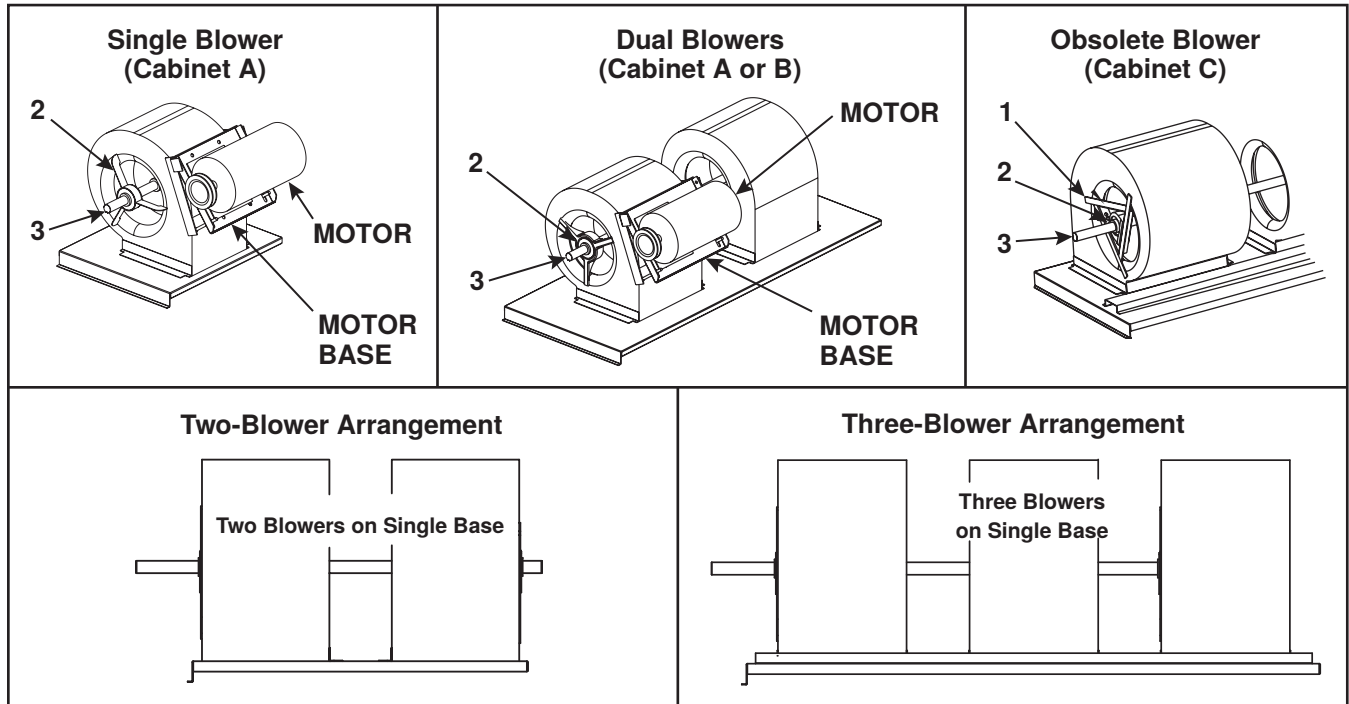

Figure 11. Blower Components and Arrangements (Refer to Table 22)
*See Figure 11.
*Quantity is one (1) unless otherwise indicated.